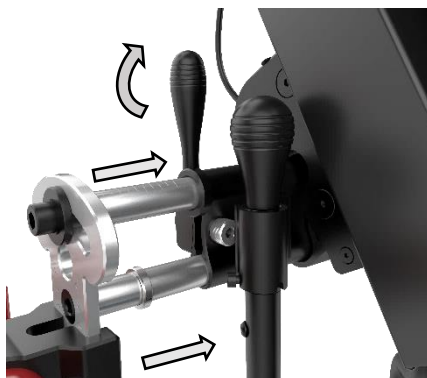

Figure 15. Assembling the Manual Clamp Assembly to the Width Adjustment Assembly
- Insert the Manual Clamp Assembly into the device with the two Width Adjusting Rods into the two receiving holes. The QR Lock Levers must be down and loose to receive the Manual Clamp Mechanism. Once the width is established it is locked upright (see Figure 15).